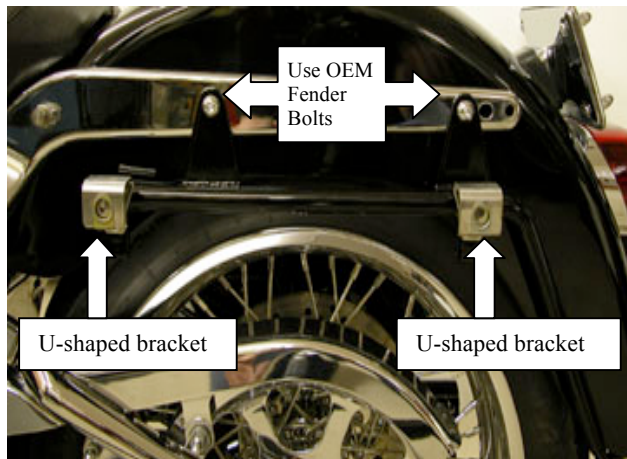

Figure 1
**Note:** On some models, the saddlebag MAY contact the edge of the seat. It will be necessary to space the front U-Shaped bracket (figure 1) out 3/8-1/2 inch to clear the seat.
2. Bolt upper bag support to struts as shown in Figure 1. **Note:** There is a right & left side. Install U-Shaped brackets as shown in Figure 1.